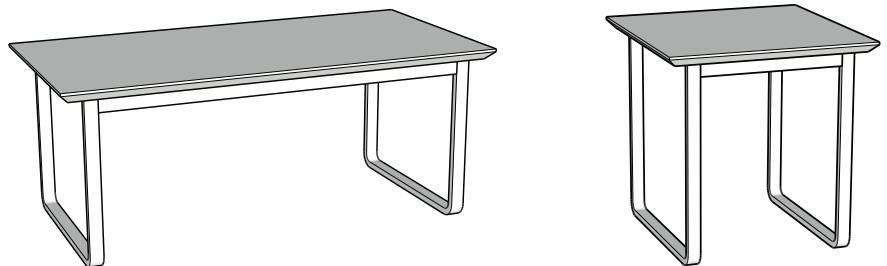

Fig 1
2. Connect cross tubes to leg frames using 1/2" Allen bolts, as shown in figure 1. Keep bolts slightly loose for now.